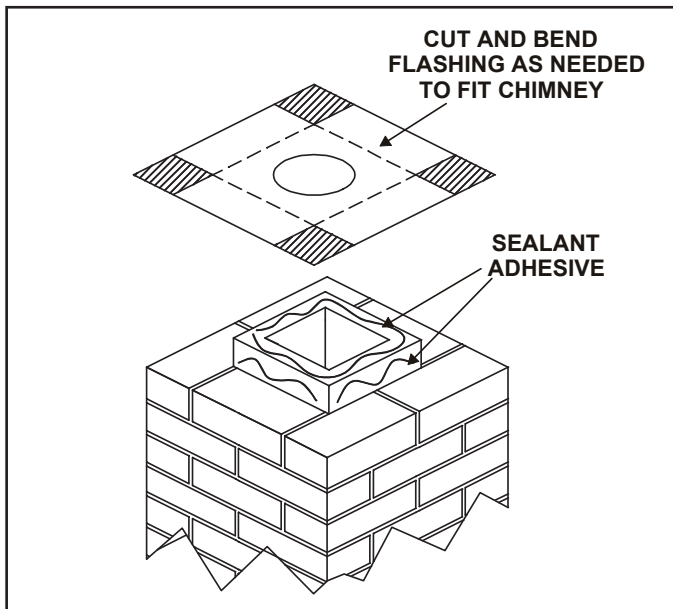

Figure 7.2
- Trim chimney top plate to minimize excess overhang or bend over flue tile (see Figure 7.2).